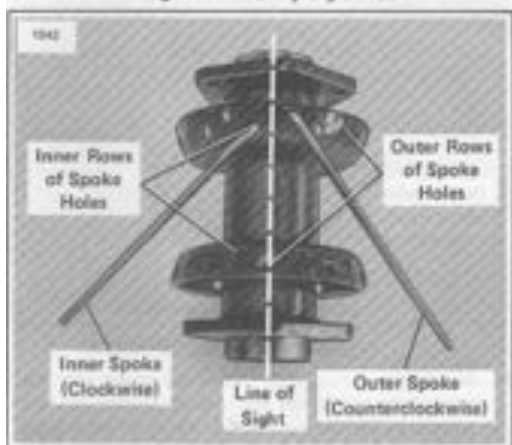
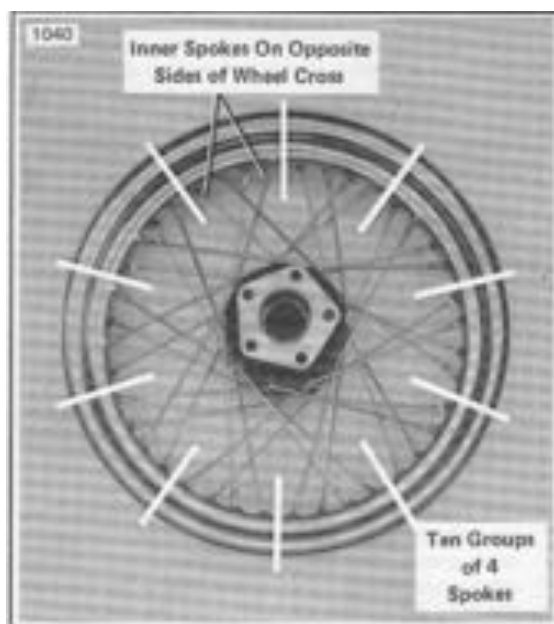

Figure 2-12A. Late Style Hub
Figure 2-12C. Late Style Laced Wheel
**Late Style Hub** - See Figure 2-12A. Pick any outside spoke hole and sight straight across the hub. The first spoke hole to the right of the centerline is an outside spoke hole. Also, with the wheel assembled, all inner spokes on opposite sides of the wheel cross and all outer spokes on opposite sides of the wheel cross. See Figure 2-12C.